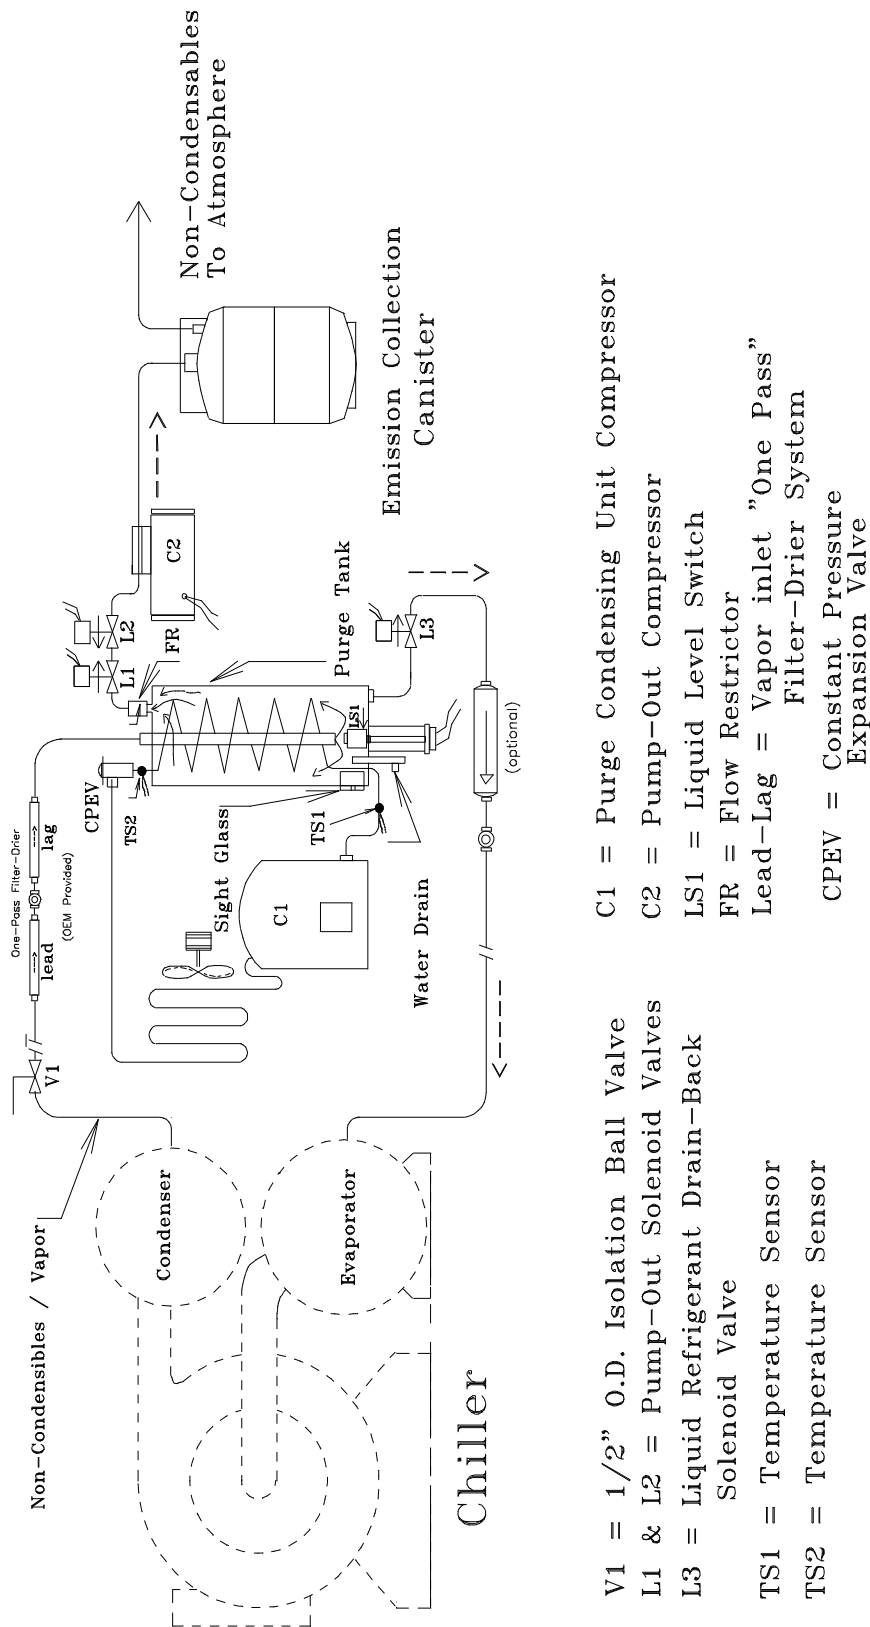

Figure 5. - Flow Schematic and component location
2. If used, install the optional liquid line filter-drier and the moisture indicating sight glass as shown in Figure 5 on page 18. The sight glass should be installed so the viewing area is tilted slightly downward just enough to assure liquid contact with the moisture sensing element. If not used, connect return line direct to drain back solenoid valve L3.
3. Install the 1/2-inch purge line and vapor line filter-drier set with the moisture indicator sight glass (see Figure 5 on page 18) from the purge unit to the condenser purge fitting. Start by making the connection at the purge first. Next, determine what fitting will be used to make the connection at the condenser. Cap off the flare end of fitting with a flare cap.
The purge tank consists of a refrigerated cooling coil, liquid level switch, liquid level sight glass, water bleed-off valve, and a non-condensables exhaust port. The non-condensables are removed from the purge tank via pumpout solenoid valves L1, L2 and the pumpout compressor. The condensed refrigerant accumulates in the bottom of the purge tank (see Figure 5 on page 18).
Purge activity is continuous while the purge condensing unit is operating. The purge condensing unit provides the cooling source to condense the refrigerant vapor as it enters the purge tank. Accumulation of non-condensables in the purge tank is dependent upon the presence or absence of air in the chiller condenser. If there is no air in the chiller condenser, non-condensables will not accumulate in the purge tank. All condensed refrigerant falls to the bottom of the purge tank where a level of liquid refrigerant is maintained during purge operation. When the purge condensing unit is operating, liquid is visible in the purge tank sight glass. The liquid refrigerant level is controlled by liquid level switch LS1 and liquid return solenoid valve L3 (see Figure 5 on page 18).
Vacuum pump C2 (see Figure 5 on page 18 for location) is used to purge non-condensables from the purge tank during the pumpout cycle.
Temperature Sensor TS2 (see Figure 5 on page 18 for location), monitors the purge tank evaporating temperature.
Pumpout solenoid valve L1 and L2 (see Figure 5 on page 18 for location), are used to control purge exhaust from the purge tank. Operation of L1 and L2 is controlled by Temperature Sensor TS1 via the microprocessor control. Two pumpout solenoid valves are provided since their function in the system is critical.
Drain solenoid valve L3 (see Figure 5 on page 18 for location), is used to control the draining of liquid refrigerant from the purge tank.
Liquid Level Switch (LS1) - (see Figure 5 on page 18 for location).